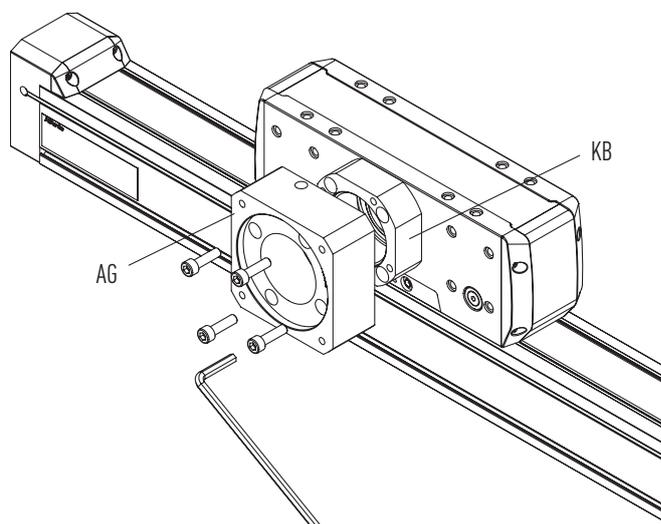

Fig. 6.94 Mounting the gear adapter plate AG
- ▶ Attach the gear adapter plate AG so that it lies flat (see Fig. 6.94). In doing so, note the position of the hole for the clamping hub's clamping bolt.